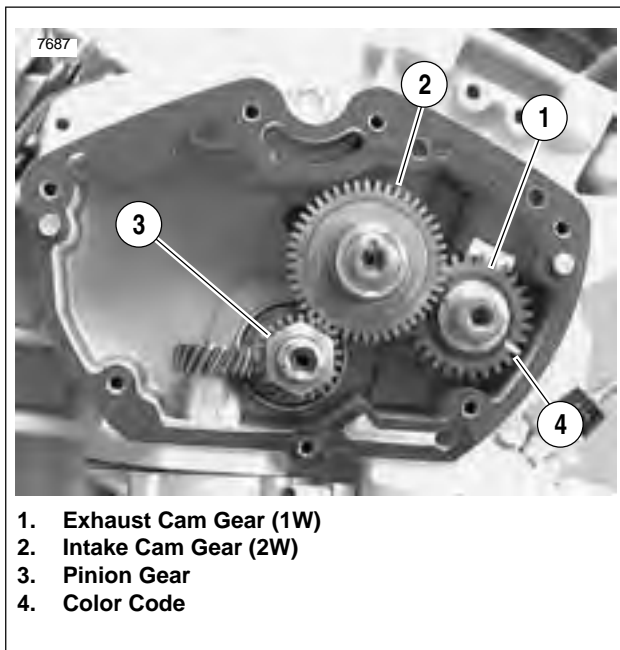

Figure 3-101. Cam and Pinion Gear Color Code Location and Timing Mark Indexing
Cam gears are individually selected for each specific gear cover through sophisticated computer-aided measuring techniques in a controlled environment. Each gear is assigned an individual color code based on its diameter (measured with gauge pins). When cam gears are replaced, always use the same color code as found on gears being replaced to ensure that the gear operation remains as quiet as possible. For location of cam gear color codes, see Figure 3-101. Pinion gear and large gear on intake cam are one size only. No selective sizing is possible. If damaged, replace both gears as a pair.
3. See Figure 3-101. Liberally apply engine oil to bushings, shafts, and gears. Install all cam gears into bushings of right crankcase half, properly aligning timing marks of cam gears and pinion gear.